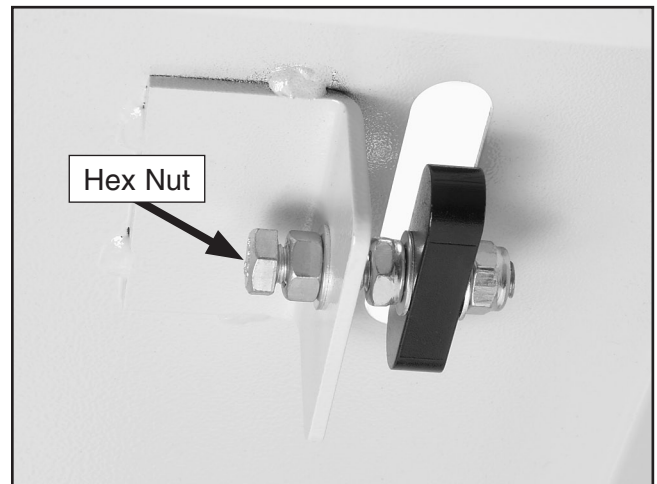

Figure 81. Crosscut fence adjustment cam.
5. Loosen the hex nut shown in **Figure 81** and rotate the hex bolt to square the crosscut fence.